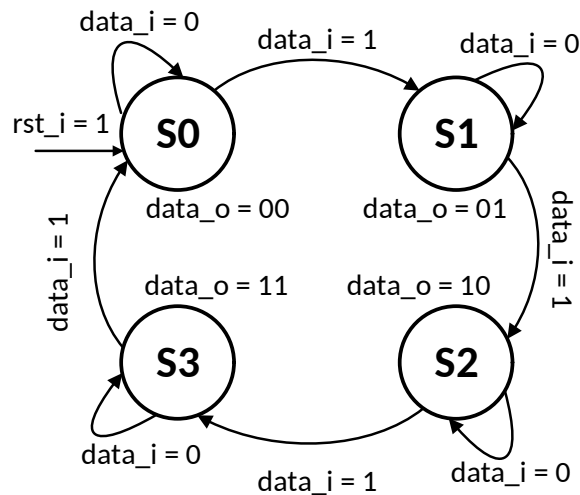

Fig. 1. 4-state Moore state machine
In this part, you will implement a simple FSM (Finite State Machine) using VHDL language. This FSM is actually a 2-bits counter that counts the number of bit 1 in *data_i* signal. Fig. 1 shows the state diagram of this FSM. It is a Moore state machine since the change of output *data_o* only depends on the current state not on the current input *data_i*.
3. The content of VHDL module *moore_4s* is missing. Finish the implementation of this FSM follow the state diagram in Fig. 1.